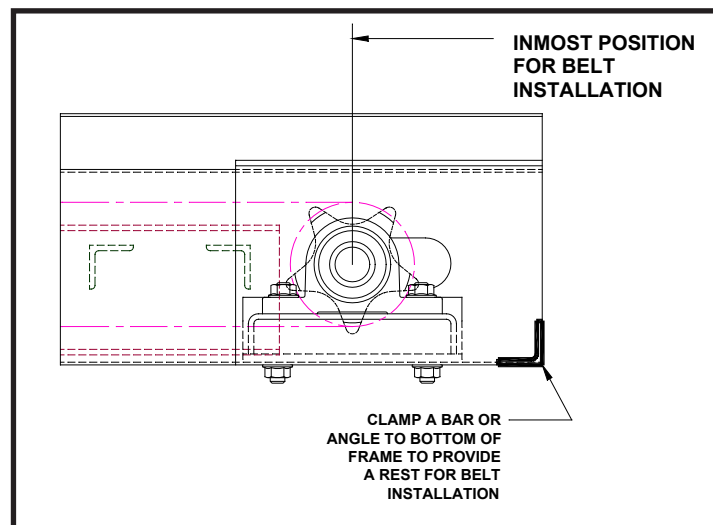

FIGURE 3
1. Prior to installing the belt, adjust the drive shaft (and infeed shaft if adjustable) toward the center of the conveyor. See FIGURE 3. Check to make sure the drive and infeed shafts are parallel to each other.
2. Attach an angle or bar across the bottom of the discharge. See FIGURE 3. This provides a rest and guide for the belt during installation.